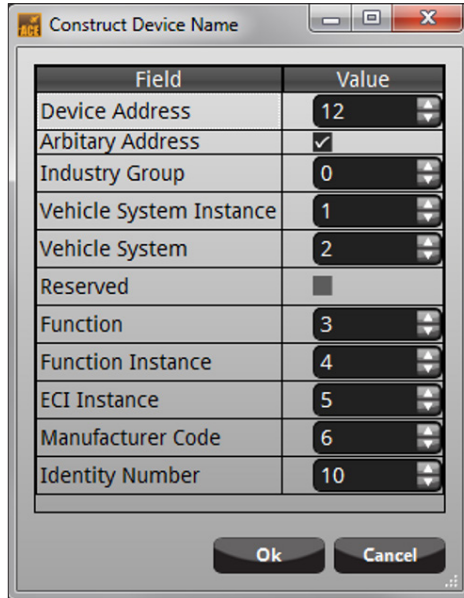

Figure 15. Values for Construct Device Name.
- Click on the newly added row and edit the address and name (see Figure 15 for the values).